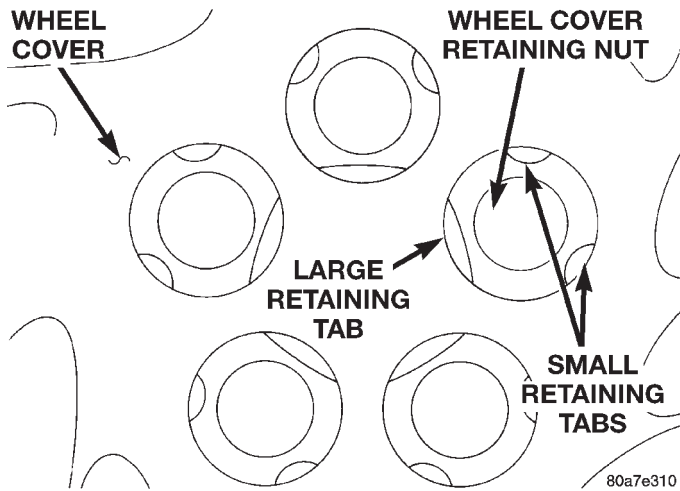

Fig. 16 Wheel Cover Retaining Nut Retention
(2) From the back side of the wheel cover, push outward and tilt the retaining nut sideways forcing the flange on the retaining nut past the 2 small retaining tabs in the retaining nut hole of the wheel cover (Fig. 16).
(3) When flange on retaining nut is past the 2 retaining tabs on the wheel cover, remove retaining nut from wheel cover by pushing or pulling from hole in wheel cover.
(1) Install retaining nut in hole of wheel cover with retaining nut flange positioned under the large retaining flange (Fig. 16).
(2) Push on hex of retaining nut forcing the retaining nut flange past the 2 small retaining tabs in wheel cover.